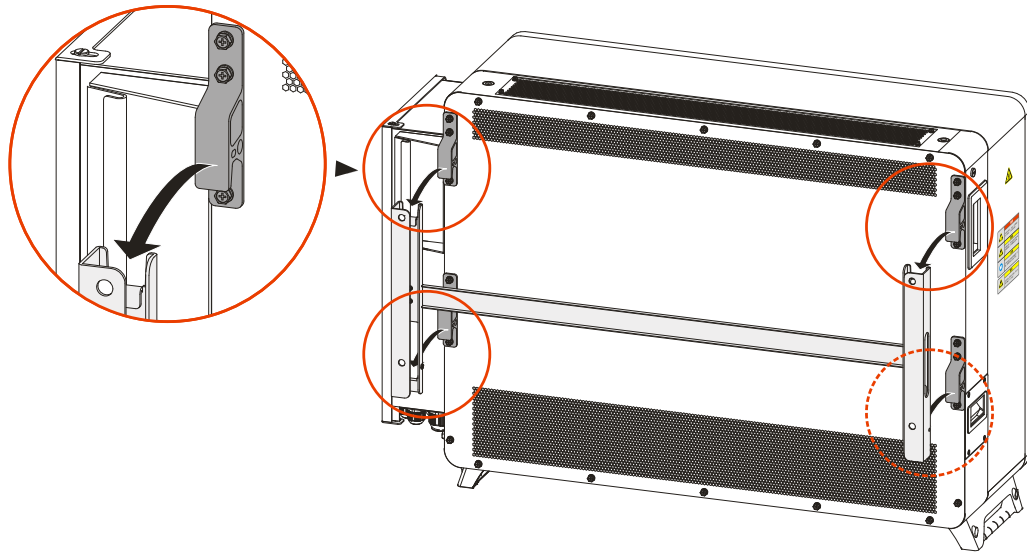

Figure3-24 Hang the inverter onto the installation holder
Step 6 Lift the inverter to the installation holder, make sure that the mounting ears of the inverter and the groove of the installation holder fit well, and then slowly hang the inverter to the installation holder, as shown in Figure3-24.